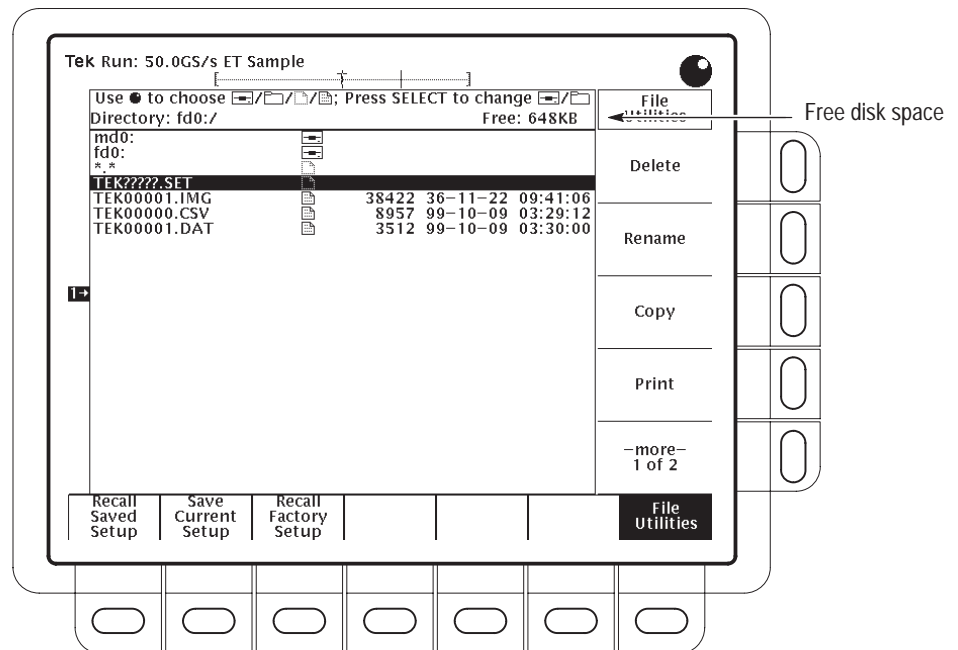

Figure 3-24: File Utilities
2. Press **File Utilities** in the main menu to bring up the File Utilities side menu. (See Figure 3-24.)